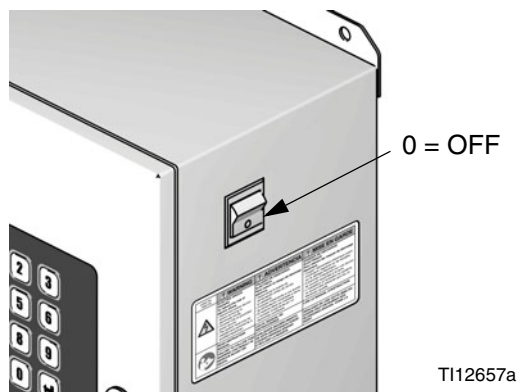

FIG. 2: Power Off
1. Shut off ProMix 2KS power (0 position). FIG. 2. Also shut off power at main circuit breaker.